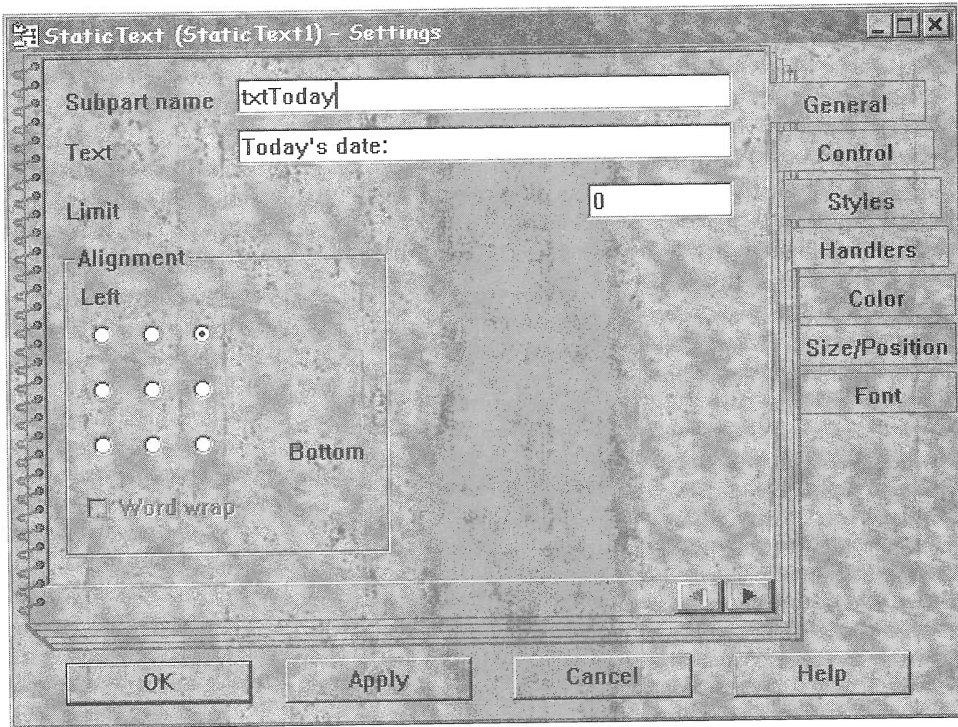

Figure 148: Settings notebook for Today's date
- ☐ Select the right alignment radio button in the upper right corner of the **Alignment** group. See Figure 148.